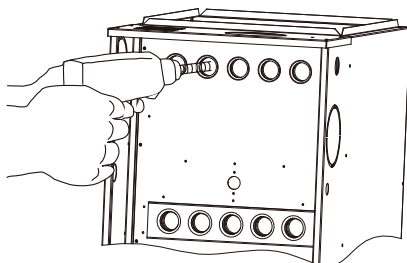

Fig. 14-3 Cleaning Heat Exchanger Cell
- (2.) Insert brush end of cable into the outlet opening of cell and slowly rotate with drill. DO NOT force cable. Gradually insert cable into upper pass of cell.(See Fig. 14-3.)